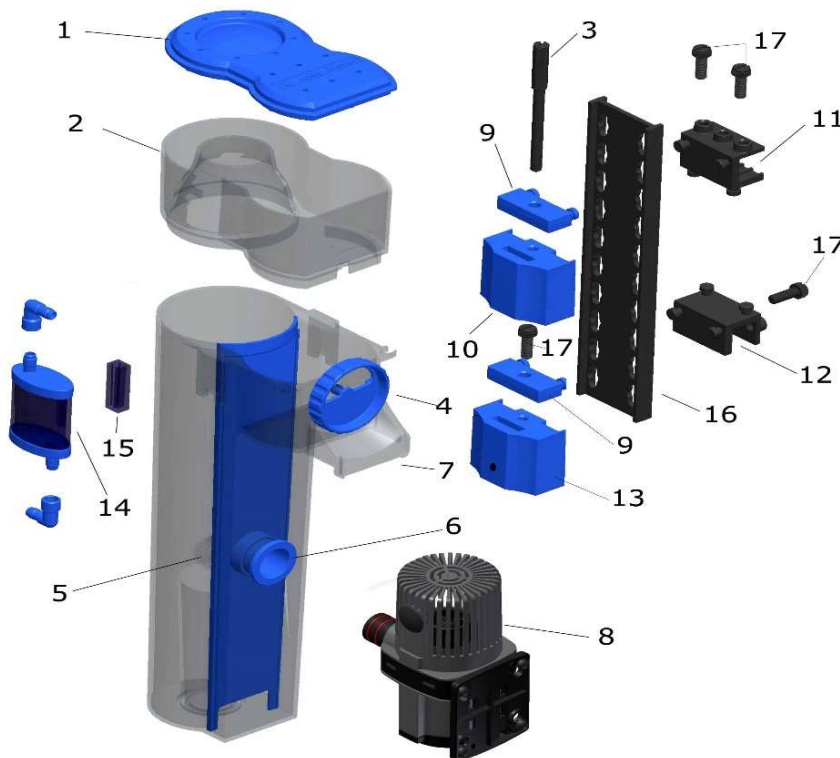
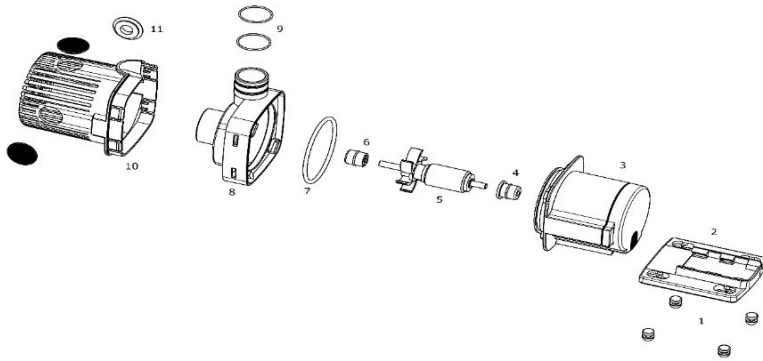

Fig. 1: EVO 500
Fig. 2: DC Runner 1.3
The pump DC Runner 1.3 is operated by an electronic safety transformer at AC 110 – 240 V / 50 – 60 Hz and 24 V DC output. Power consumption of the pump is < 7 watts, protection rating is IP X8. To open the pump, remove retaining plate and release the pump lock (Fig. 2, No. 8) by turning it. **The pump must be mounted with the suction side upwards (see Fig. 1), otherwise the pump may stop.**
The venturi pump draws water out of the aquarium or filter chamber, mixes it with air in the pump housing which is then cut into small air bubbles by the impeller (Fig. 2, No. 5). This water/air mixture is then pumped into the reaction pipe where organic substances are taken up by air bubbles. Foam is formed and pushed into the foam cup. The purified water leaves the skimmer via outlet and is directed back to the aquarium or filter sump by the discharge (Fig. 1, No. 7).
First of all, the skimmer has to be put together according to Fig. 1. It can easily be mounted at the aquarium pane or a glass support by using the holding unit. The best place for mounting is either at the side or back – well accessible but protected. The pump is put into the connecting piece (6) of the skimmer, the cable points downwards and the air hose upwards to connect to the silencer (14). The sound absorber can be attached to the foam cup (2) or an aquarium pane by using the holding unit (15). To do so, take off the protective plastic film from the tape. The adhesive surface must be clean and free of grease.